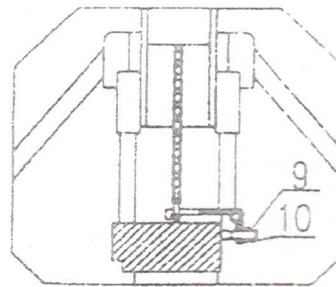

Fig. 5
- 3.8 Screw(9) in Fig.5 is used for the modification of the truck. In the event that the truck body lowers shortly after rising, turn Screw(9) a little in counterclockwise before trying the truck again. In the event that the truck body is unable to lower, normal lowering. Hexnut (10) at Screw(9) functions as a lock, so it shall be fastened before modification and locked after modification.